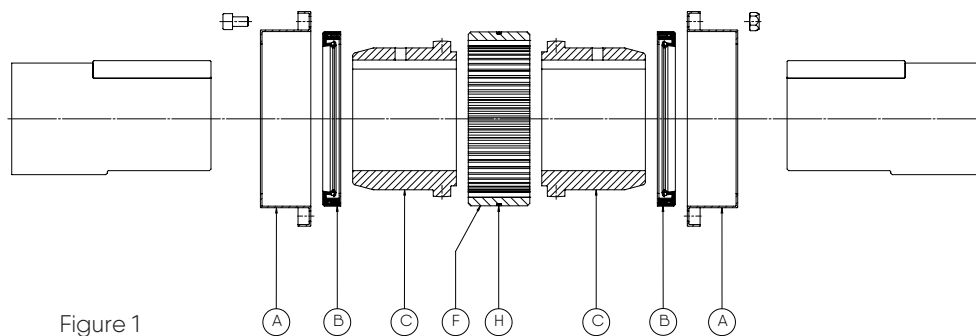

Figure 1
- 4.1.4. Install hubs C on their respective shafts. If needed, for keyway assembly, uniformly heat hubs C (max 120°C) to install them easily on the shaft, in this case, avoid any contact between the hub C and seal B. Hub faces have to be flush with shaft end. In case of doubt, please consult us. Introduce setscrew on key with Loctite and tighten properly. In case of interference fit, refer to ESCO for proper instructions. For the assembly of the type NFS, see fig. 1 or 2.